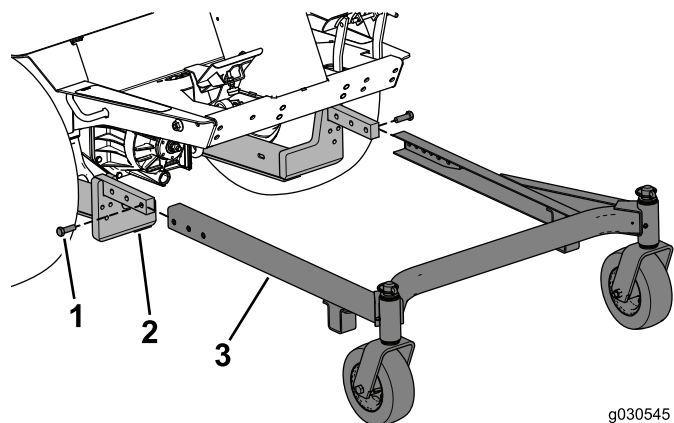

**Figure 11**
2. Use the 4 thrust washers and lynch pins to secure the caster assemblies to the carrier frame (Figure 11).